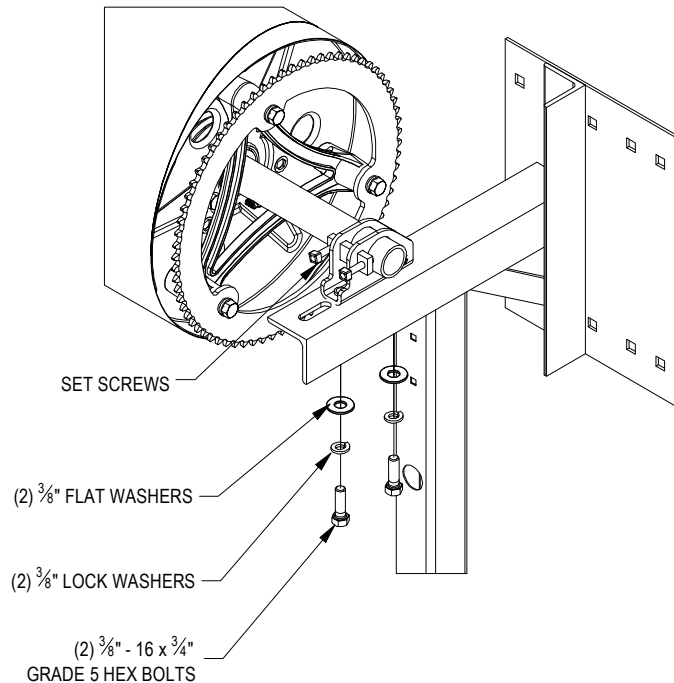

**FIGURE 14:
- Attach Stamped Axle Support to door bracket using 3/8" - 16 x 3/4" grade 5 hex bolt, 3/8" lock washer and 3/8" flat washer. **See Figure 14.**